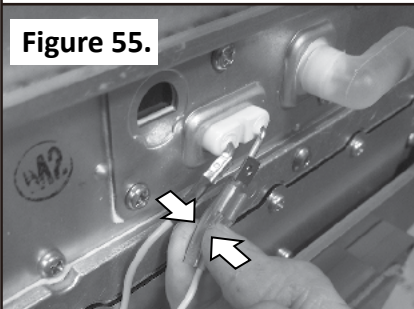

Figure 55.
- 9.1 Unplug wire connectors from the air/fuel ratio rod (AFR), flame rod, and igniter. See Figure 55.